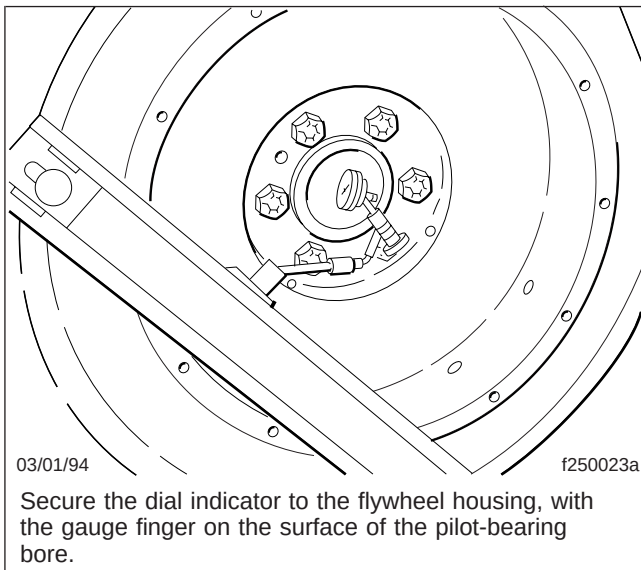

Fig. 3, Measuring the Pilot-Bearing Bore
3. Measure the runout of the pilot-bearing bore in the flywheel, as follows. See Fig. 3 for the correct setup.